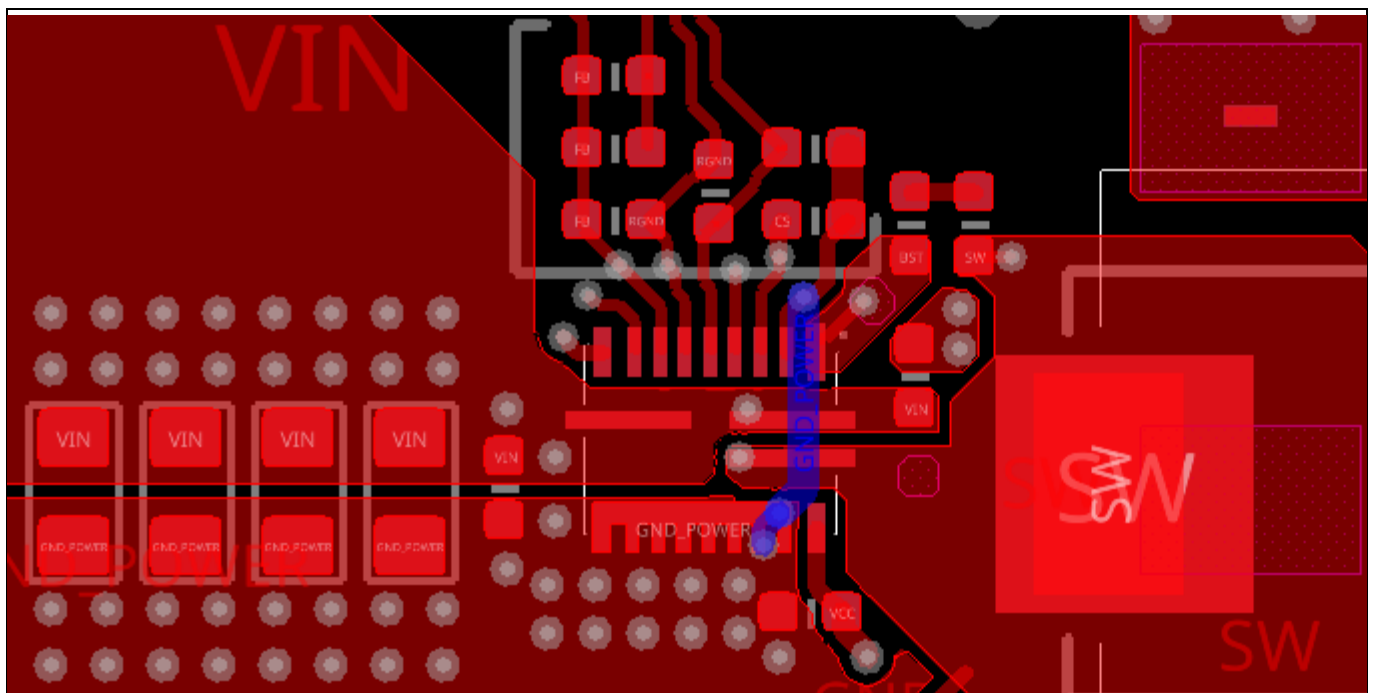

Figure 9 Recommended Layout
- Connect AGND and PGND using a trace in the inner layer as shown in Figure 9
- Place vias in the PGND layer close to Vin and Vcc capacitors as shown in Figure 9